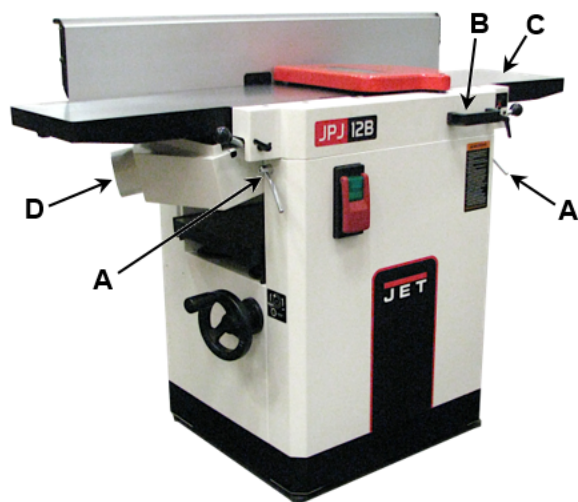

Figure 2
Refer to Figures 2 and 3:
1. Pull the *dust chute release knob* (F) and reposition the *dust chute* (D) to the left (G). It should be positioned as shown in D, Fig. 2.
2. Release the *latch* (E) and bring the table forward using the *handle* (B). It should be positioned as shown in C, Fig. 2.